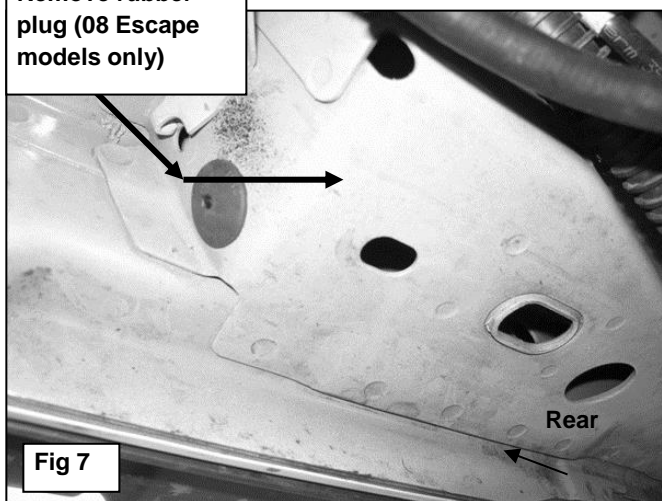

Fig 7
6. Moving to the rear of vehicle, locate the three holes in the floor panel next to the pinch weld. Remove the factory rubber plug if equipped, **(08 Escape only)**, facing the rear of the vehicle, **(Figure 7)**.